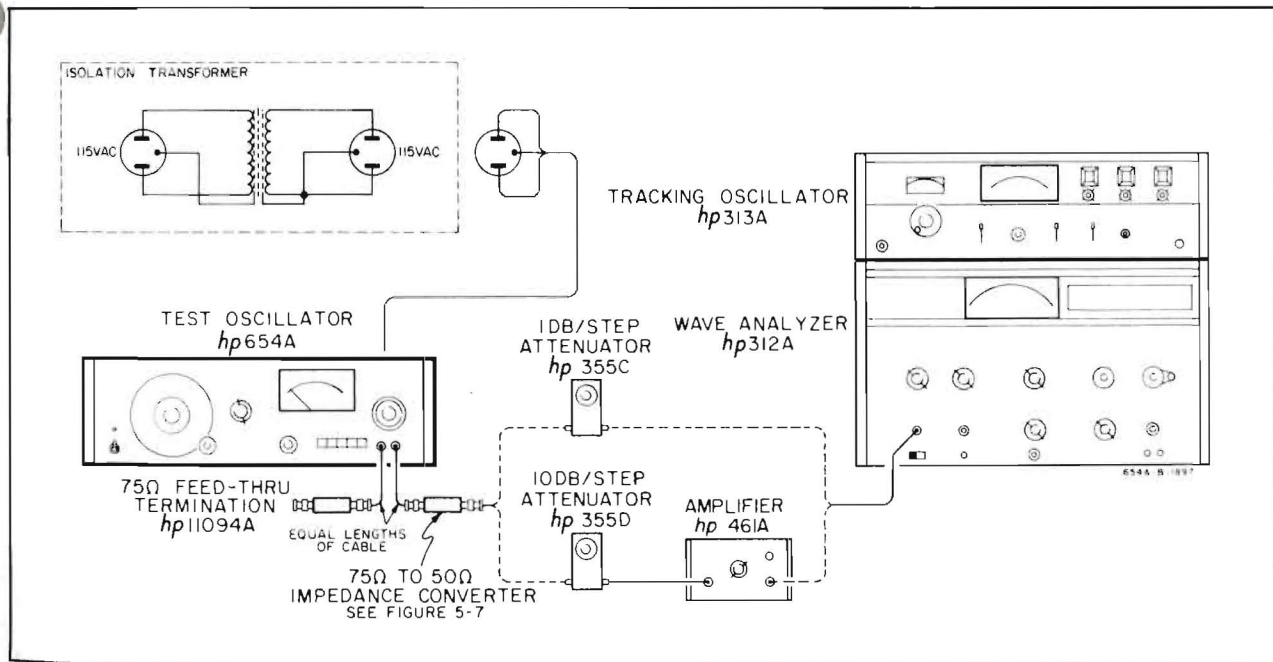
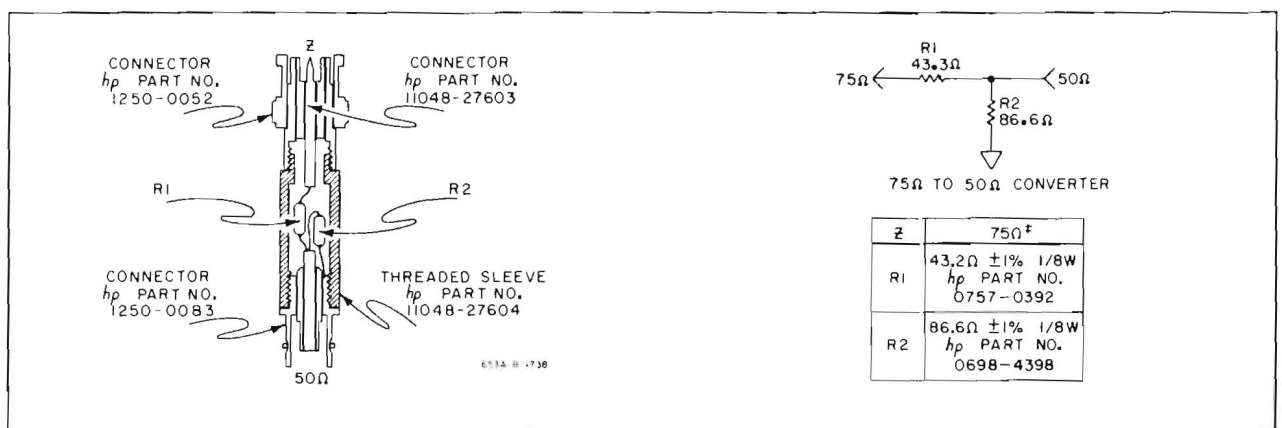

Figure 5-6. Attenuator Accuracy Checks
Figure 5-7. Impedance Converter
5-24. The test set up for the attenuator checks is critical. Improper grounding can give attenuator measurement errors of greater than 1dB. Ground loops can be eliminated by using an adequate Isolation Transformer connected between the power line source and the 654A as shown in Figure 5-6.
- a. Connect the equipment shown in Figure 5-6. (Figure 5-7 shows the parts required to build the 75 ohm to 50 ohm impedance converter). Use the 10dB/step external attenuator (with known accuracy at 300kHz and 10MHz), do not connect the 1dB/step attenuator at this time.
- i. Check the other side of the 654A 10dB attenuator at 300kHz and 10MHz by interchanging the two cables connected to the 654A output connectors (i.e. as viewed in Figure 5-6, the cable terminated in 75 ohms is moved with the termination to the right-hand connector and the cable connected to the 75 ohm to 50 ohm impedance converter is moved with the converter to the left-hand connector); then repeat steps c through h of this paragraph.
- a. Connect the equipment as in Figure 5-6 with the 1dB/step external attenuator connected directly between the 75 ohm to 50 ohm impedance converter and 312A Wave Analyzer.